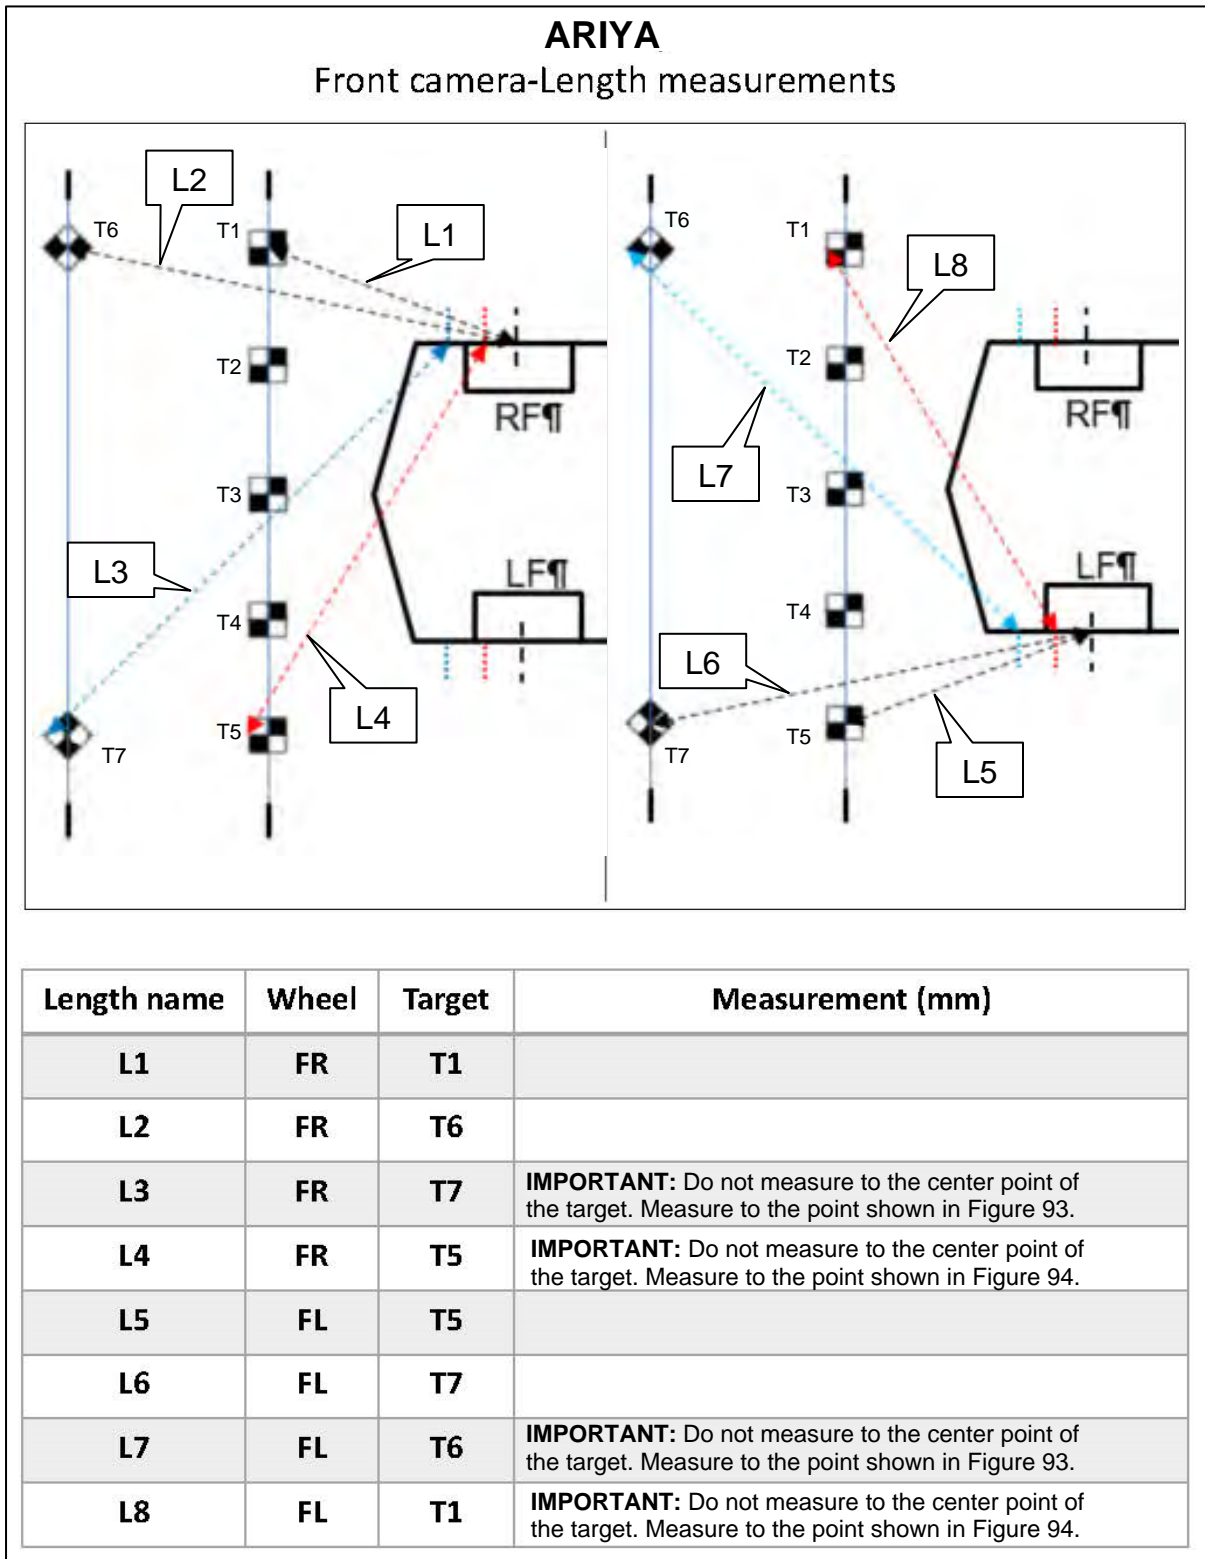
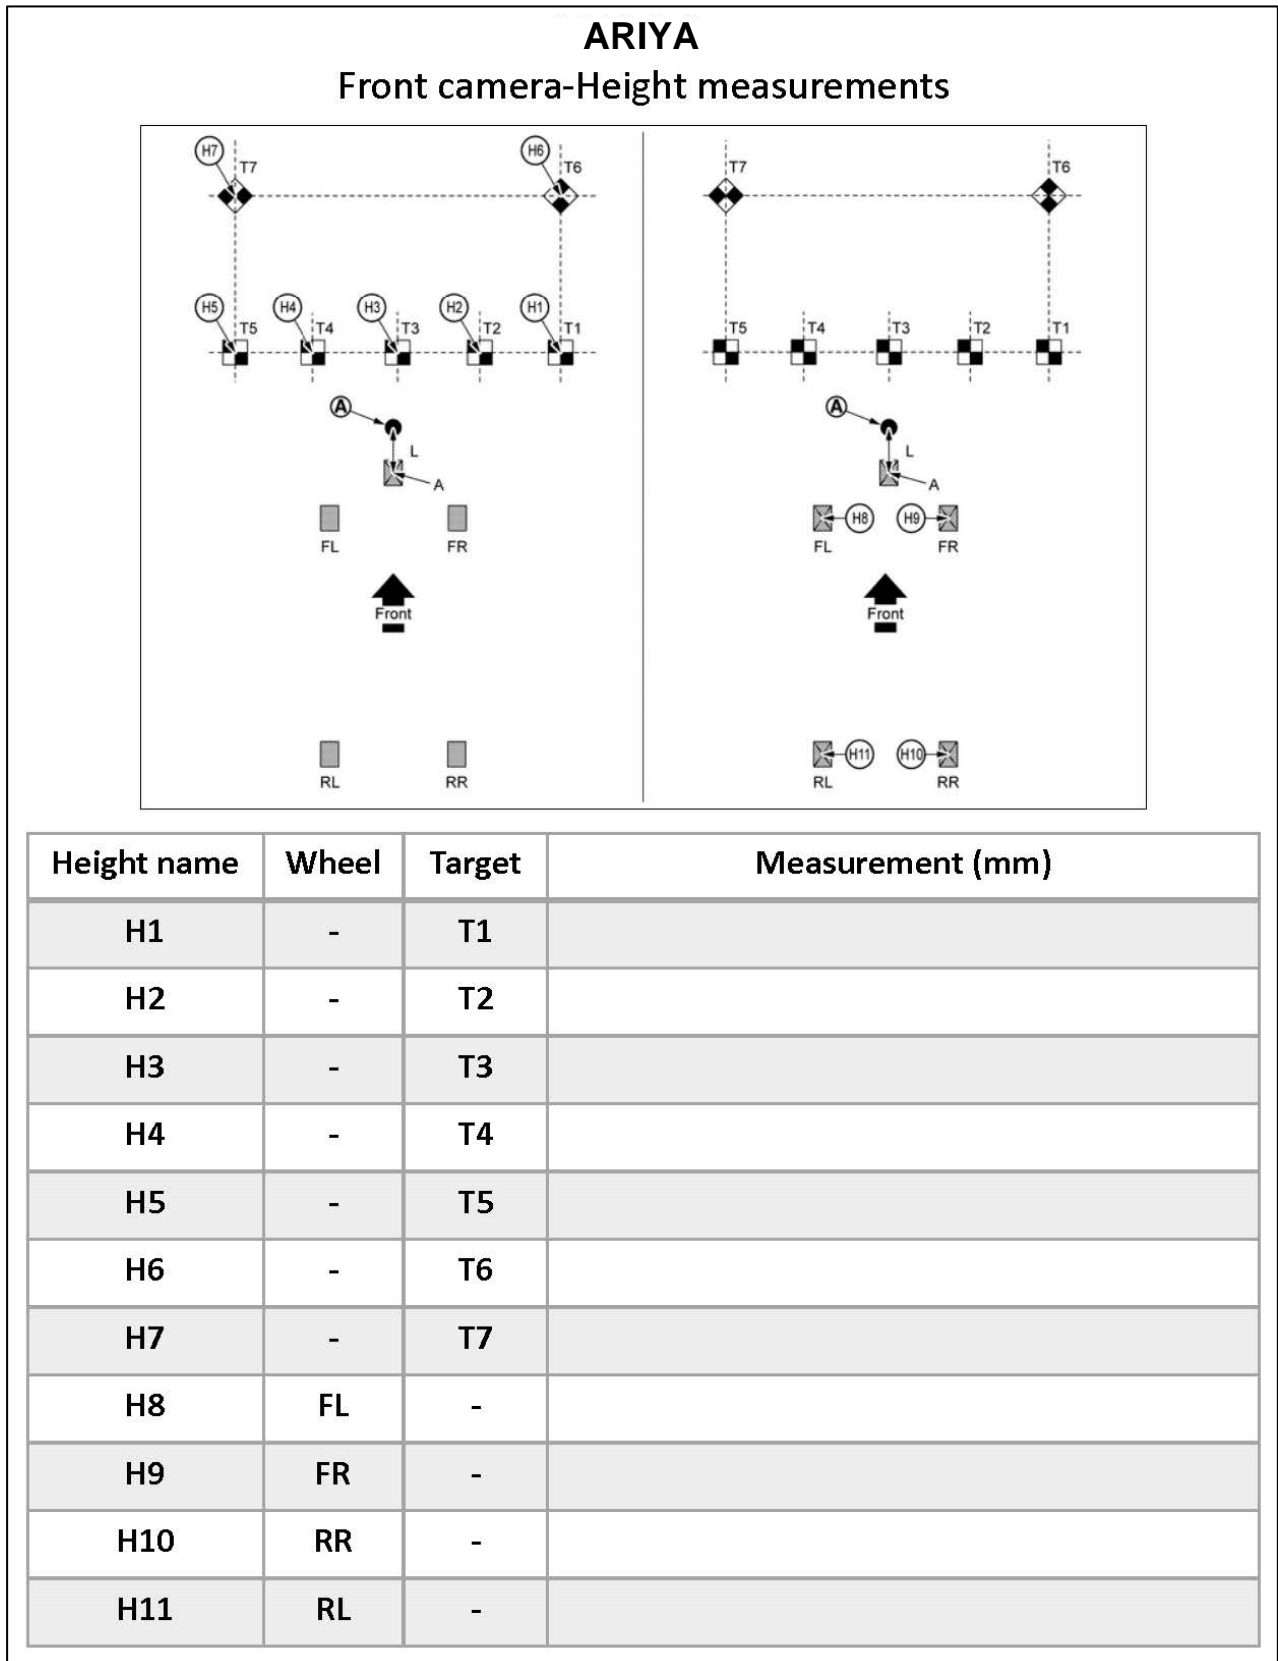

Figure 113
Figure 114
IMPORTANT: All measurements must be in millimeters (mm). Refer to the illustrations in Figure 113 and Figure 114 to ensure the correct measurement is documented in the correct order and for each calibration target.
75. Refer to steps 71 - 73 on page 55 to set up the laser level to measure the height of the front camera, and then document the measurements in Figure 114.